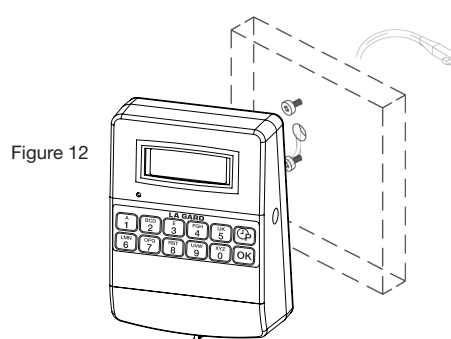

Figure 12
3. Feed the Entry Device cable through the spindle cable hole from the front of the safe door (Figure 12).